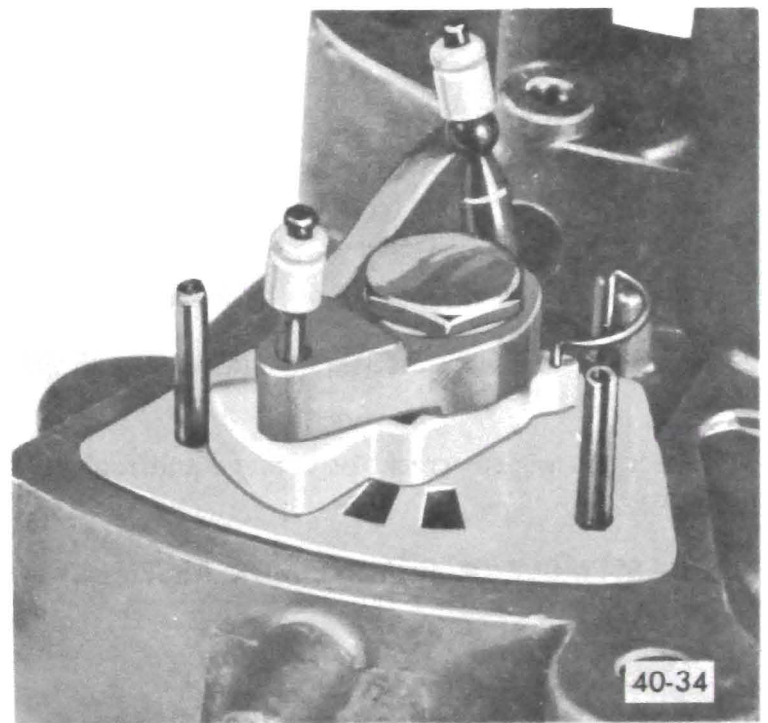

Figure 40-42 - Installing Distributor Arm Assembly
5. Install distributor valve bushing, washer, distributor arm assembly, washer and secure with screw. Tighten to 12 lb.in. See Figure 40-42.